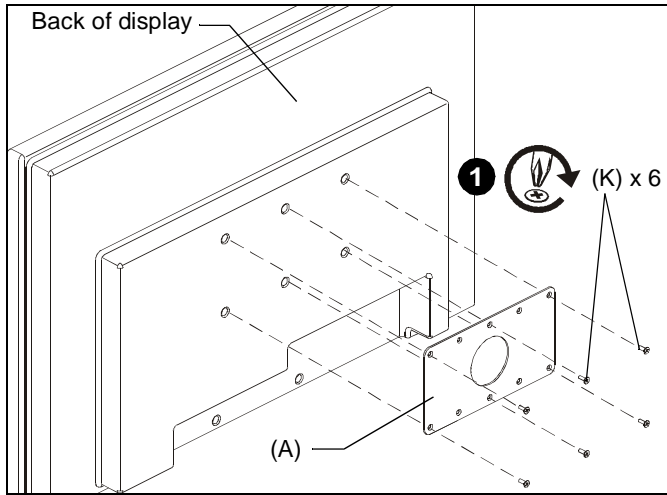

Figure 4
2. Assemble interface bracket (A) to display using six M4 x 12mm Phillips flat head screws (K). (See Figure 4)